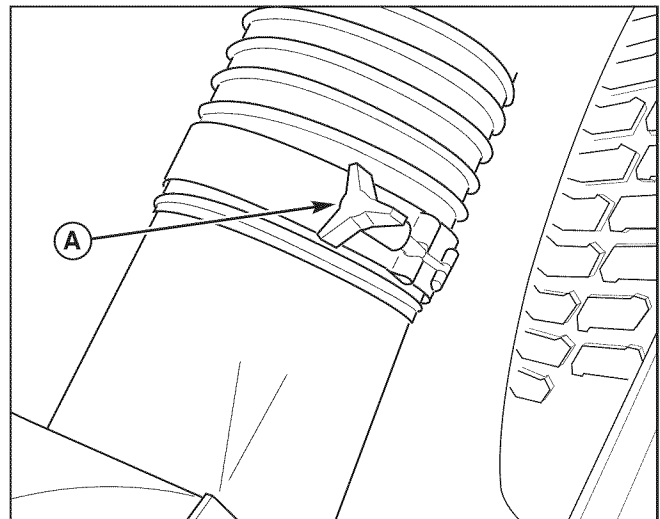

Figure 56. Remove the Hose
4. Loosen the lower clamp securing the hose to the blower outlet and remove the hose from the blower. See Figure 56.